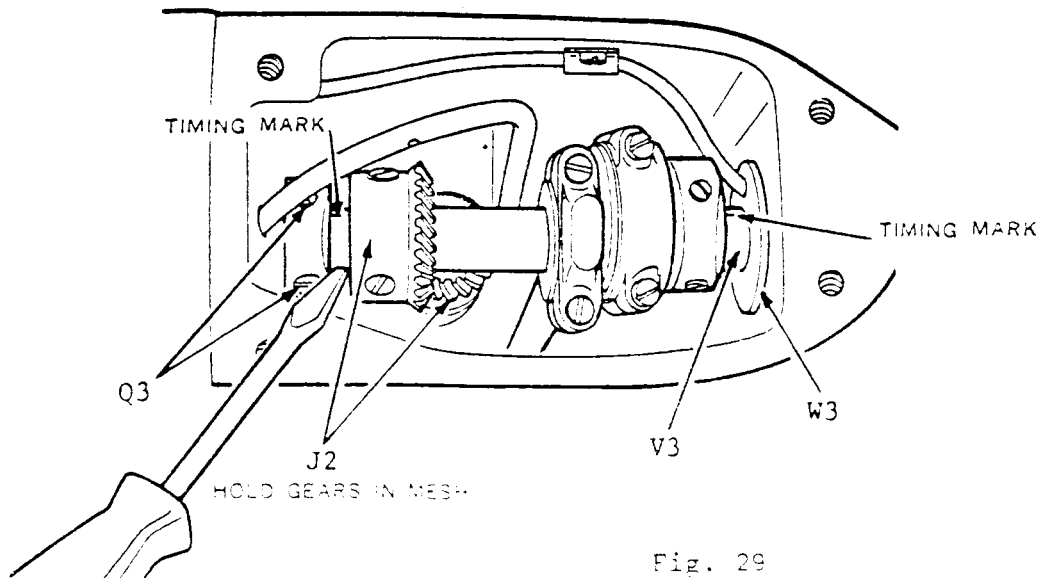
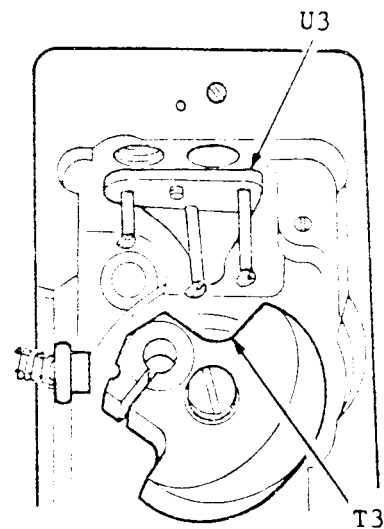

Fig. 29
Fig. 30
10. Turn the needle bar crank until it is in the position shown at T3, Fig. 30, to prevent crank from disturbing the three wick loops in holder U3, Fig. 30 during removal of arm shaft.
CAUTION: The feed-timing-bevel-gears at J2, Fig. 29 have been lapped together at the factory and should be kept in mesh (as instructed in Fig. 29) throughout the removal and replacement of the arm shaft.
11. While maintaining needle bar crank T3 at position shown in Fig. 30, hold these gears in mesh by holding the blade of a large screwdriver between thrust collar and bevel gear as shown in Fig. 29; then push the end of the arm shaft V3, Fig. 29 through the bushing W3, Fig. 29.
2. Make certain that the needle bar crank is turned to the position shown in Fig. 30, clearing the three wick loops in holder U3.